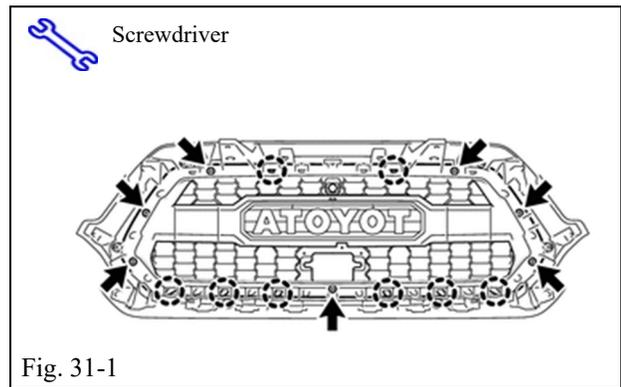

Fig. 31-1
- (a) Engage the 8 claws to install the radiator grille moulding. (Fig. 31-1)
- (b) Using a screwdriver, install the 7 screws. (Fig. 31-1)